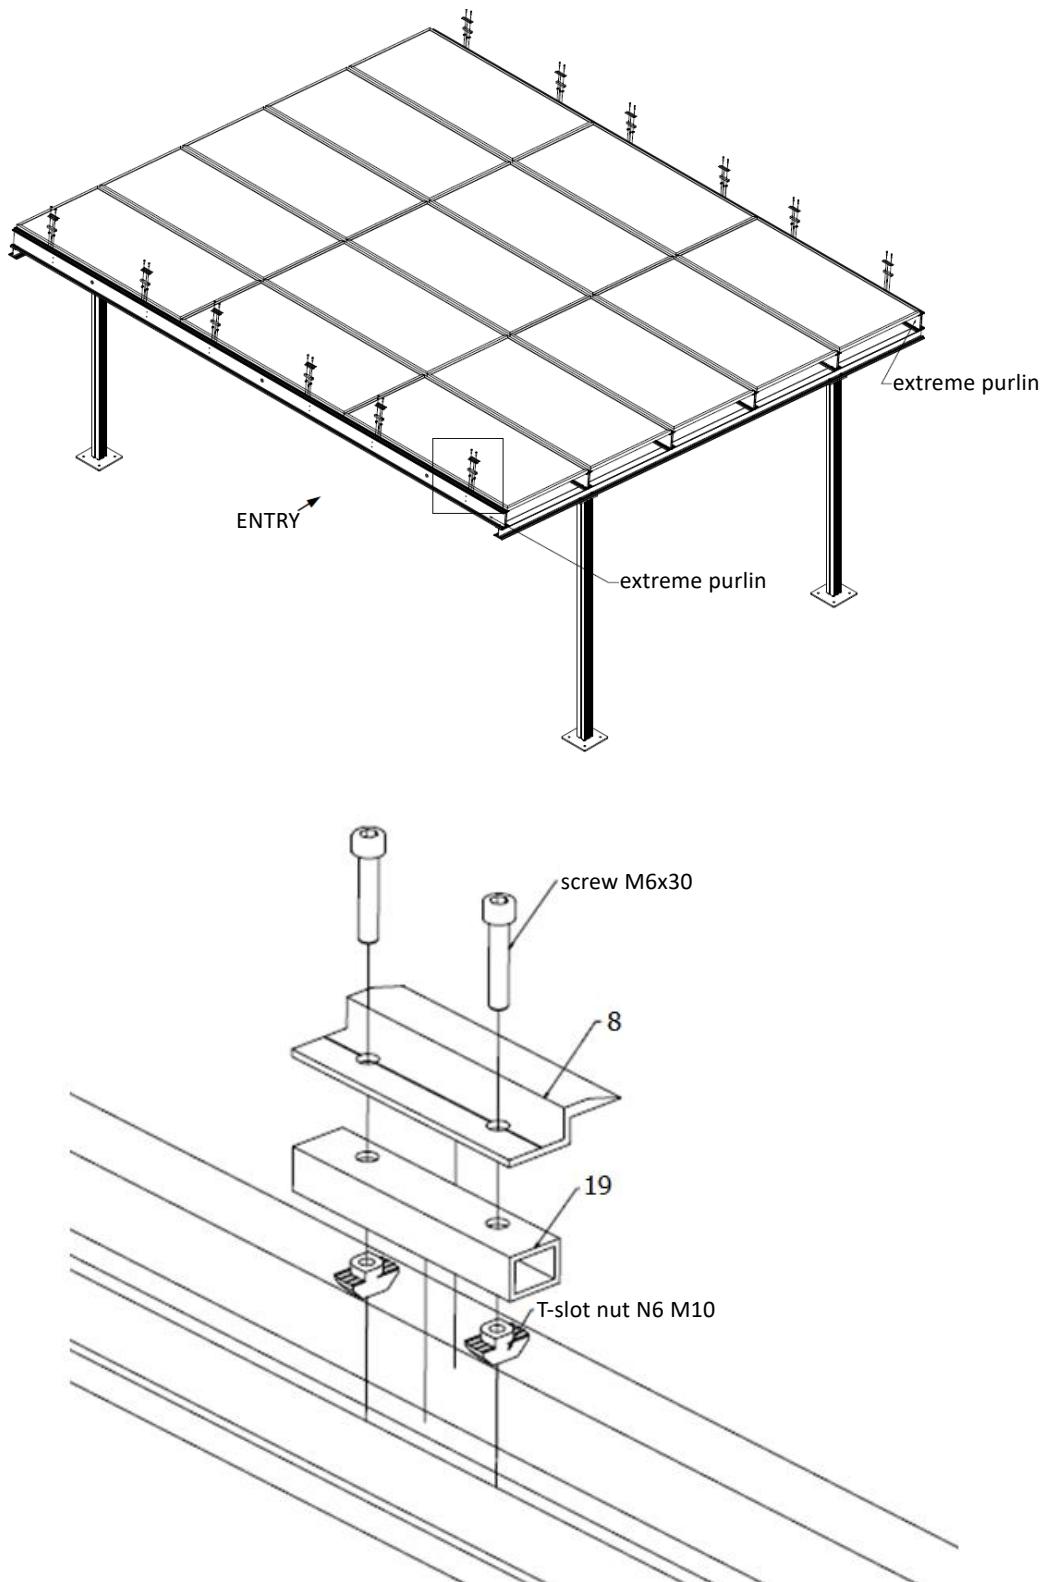

Figure 12. How to mount the modules on the end purlins
- To mount the photovoltaic modules on the extreme purlins, use the external pressure distance, external pressure and mounting kit no. 6, as shown in Figure 12.